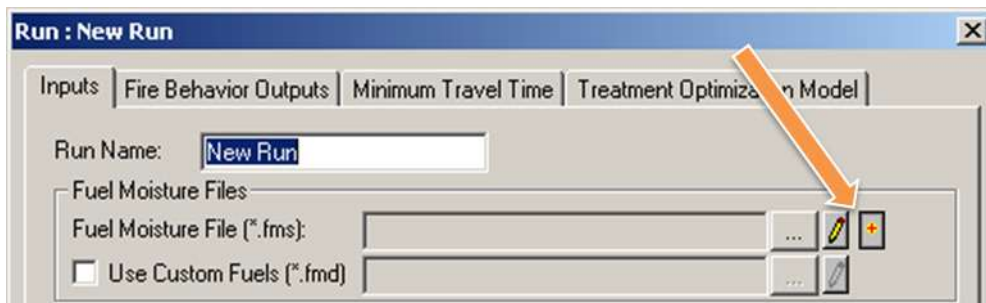

Figure 4-16—Location of the button to create a new FMS file.
- 2) Go to the **Inputs** tab, and click the red and yellow plus button to the right of *Fuel Moisture file (*.fms)* (fig. 4-16).